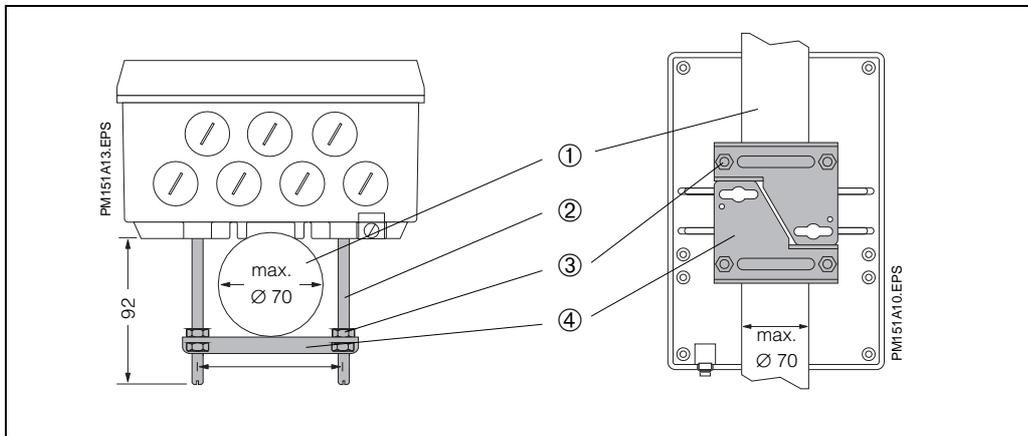

Fig. 3.7: Installation of field housing on vertical tubing
The weather protection cover CYY 101 can be installed directly on upright post of assembly holder CYH 101 by means of 2 screws (M8), see fig. 3.7, mounting position ① .